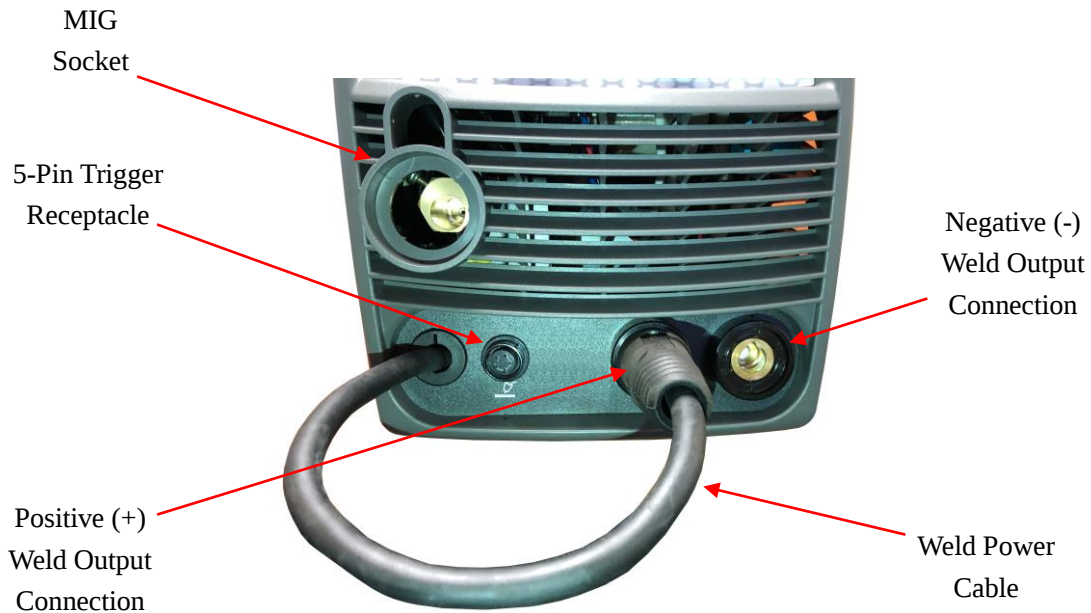

Figure 8
- i. **Electrode Positive for MIG Welding** - The Weld Power Cable (see Figure 8)
3. Insert the back end of the MIG torch into the MIG socket on the front of your machine (Figure 8). Make certain to completely slide the torch all the way in. Slightly twist to assist with pushing the torch to the back of the receptacle. The retaining bolt can then be tightened, making certain the bolt sets down into the retaining groove on the back of the MIG torch.
4. Connect the 5-Pin trigger connection on the MIG torch to the 5-Pin trigger receptacle on the front panel (Figure 8).
1. Install the ground cable quick connector to the negative (-) Weld Output Connector (Figure 8).
1. Remove the ground cable and the electrode holder from the weld output connections. Install the ground cable to the positive (+) weld output connection (Figure 8).
2. Connect the Weld Power Cable (See Figure 8 or follow the onscreen visual) to the Positive (+) Weld Output Connection. Press the MULTI-FUNCTION ADJUSTMENT/SELECTION KNOB to confirm your selection.
1. Connect the Weld Power Cable (See Figure 8 or follow the onscreen visual) to the Positive (+) Weld Output Connection. Press the MULTI-FUNCTION ADJUSTMENT/SELECTION KNOB to confirm your selection.